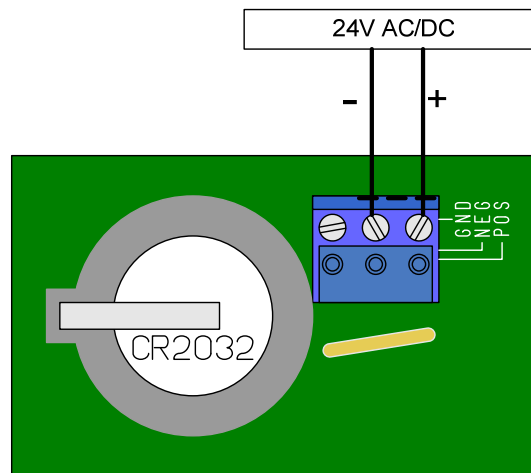

Figure 3: Q3 Connector for Low Voltage Connection
Step 7: Connect the low voltage 24VAC power from the power supply's 40VA output to the Q3 input power connector using 18AWG minimum stranded wire (Figure 3).